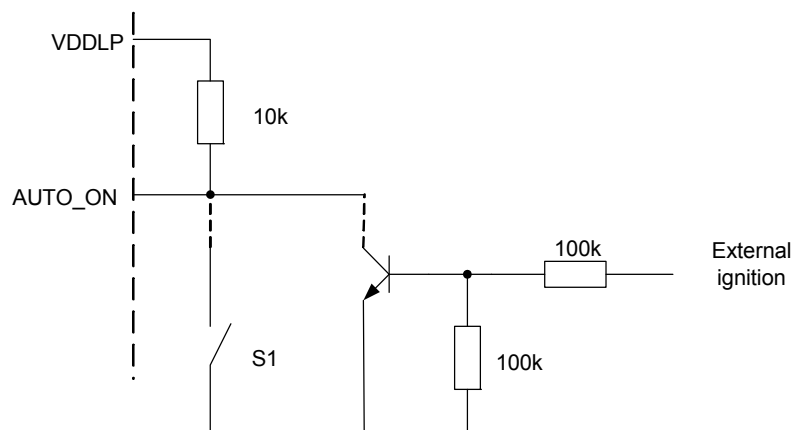

Figure 37: AUTO\_ON circuit sample for controlled module switch-on
- Figure 37 for a controlled module switch on. Here, it is recommended to use a 10kΩ pull up resistor at the AUTO\_ON pad. The 10kΩ pull up resistor may be required in an electrically noisy environment.
In case the AUTO\_ON signal is permanently connected to ground (see Figure 37, S1 set to low level) the module will start up if the operating voltage BATT+ is applied with a rise time of less than 1 millisecond between 2.5V to 3.2V.